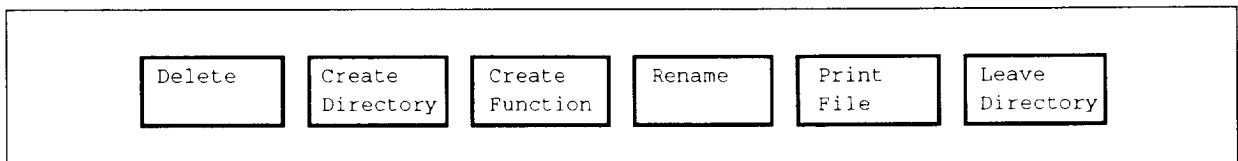

Figure 3-1. Function Keys menu.
3. Touch the Function Keys softkey. This displays the FunctionKeys directory and the Function Keys menu (Figure 3-1).